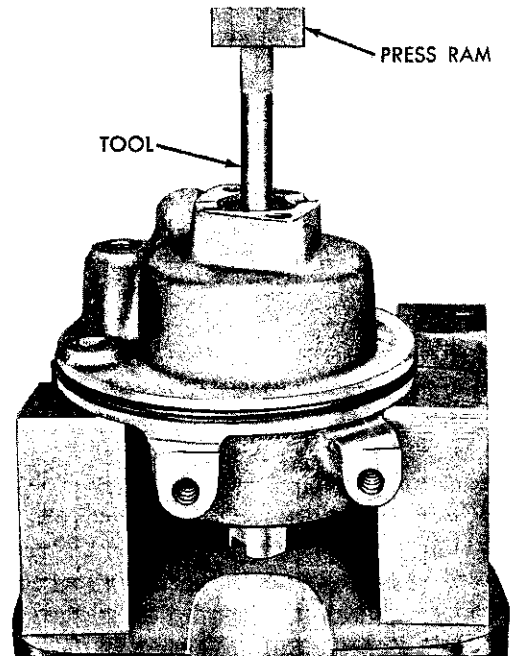

Fig. 13—Removing the Shaft Rotor and Front Insert
(6) Support the pump housing so that the front insert is clear and use a smooth ½ inch diameter bar (Fig. 13), press the shaft, rotor and front insert out of the pump housing.